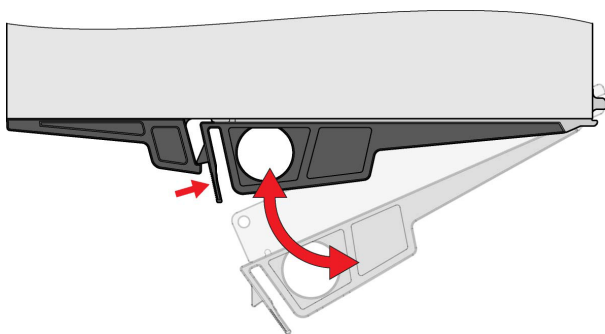

Figure 6-11: I/O Module Latch Operation
2. Pull the latch outward to cam the module out of the enclosure (Figure 6-11).